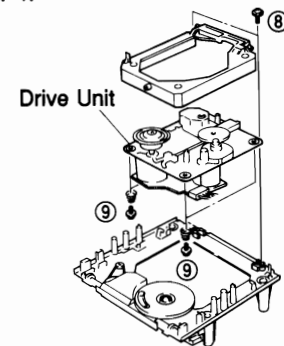

Fig. 4
- a. Remove 2 screws (⑧) in Fig. 4.
- b. Remove 4 screws (⑨) and then remove the Drive Unit in Fig. 4.